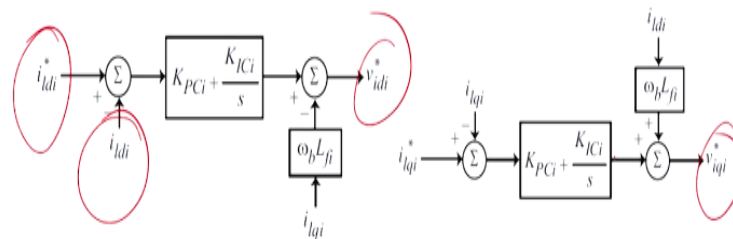

Fig.4 Block diagram of the current controller
- The block diagram of the current controller is shown in Fig.4.
- where v_{di} and v_{qi} are the auxiliary state variables defined for the PI controllers as illustrated in Fig.4.